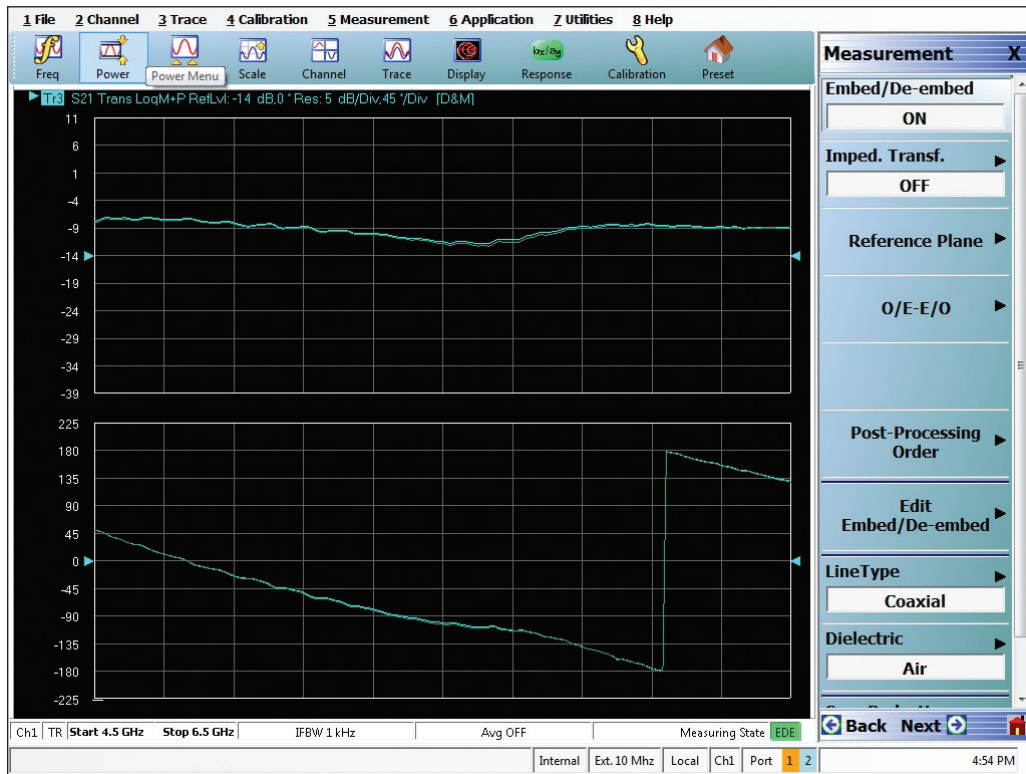

Figure 11: Measurement results and saved calculated results shown overlaid on top of each other.
7. We have now overlaid the measurement results with the saved calculated results for device 2 as shown in Figure 11.